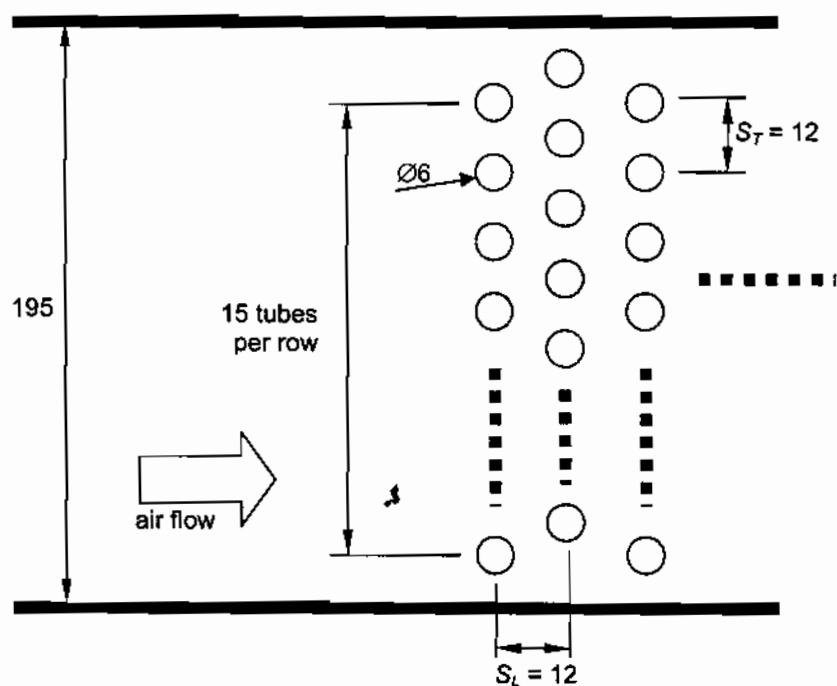

Figure 6 Schematic diagram of tubes in heat exchanger. Dimensions in mm, not to scale.
- (b) Write down the mass transfer correlations for average Sherwood number, for (i) laminar and (ii) mixed laminar/turbulent flow over a flat plate. (2)
- (c) Dry air at atmospheric pressure and 40°C flows at 12 m/s over a plate which is wetted with a 0.2-mm thick film of water. The plate and the water are also at 40°C, and the plate is 1 m wide. Calculate the rate of mass transfer of water from the surface and the time required to dry out the plate completely if the plate is (i) 0.4 m and (ii) 1.2 m long in the direction of flow. (8)
- (d) How and why would the results differ if the plate and water film were at 80°C (with the air remaining at 40°C)? (2)
- (a) What is the Prandtl number of the mixture? (2)
- (b) Is the flow from the injection point downstream laminar or turbulent? Is it hydrodynamically fully developed? Is it thermally fully developed? Justify your answers. (4)
- (c) Calculate the average heat transfer coefficient for flow of the mixture through the 400 mm length of vein. (6)
- (d) Based on your calculated heat transfer coefficient, estimate the vein length which would be required for blood mixture to reach 36°C. (6)
- (e) Is the assumption of uniform vein wall temperature a reasonable one? Explain your answer, and suggest how a more realistic analysis could be made. (2)
- 6 A crossflow heat exchanger, used to cool air, consists of tubes arranged in staggered rows, as shown in Figure 6. Air flows over the tubes, perpendicular to the rows, which each contain 15 tubes. Air approaches the tube bank at 200°C , 100 kPa, and a velocity of 22 m/s. The tubes are arranged in a duct which is 195 mm wide. 1.02 kg/s of water in total flows through the tubes, entering at 27°C . The convection heat transfer coefficient for water flow in the tubes is $315 \text{ W/m}^2\text{K}$. The tubes are 200 mm long (perpendicular to the plane of the diagram), 6 mm in diameter, and spaced at centre-to-centre pitches of 12 mm in both the transverse and longitudinal directions. They are thin-walled and highly conductive. The heat exchanger must be designed to cool the air to 70°C .
- Calculate the mass flow rate of air, the total heat transfer, and hence outlet temperature of the water. (4)
- Estimate the convection coefficient for heat transfer from the air to the tube surfaces. (8)
- Hence, calculate the overall heat transfer coefficient (U) for heat transfer from air to water. (1)
- Using a heat exchanger analysis, determine the number of tube rows required. (7)